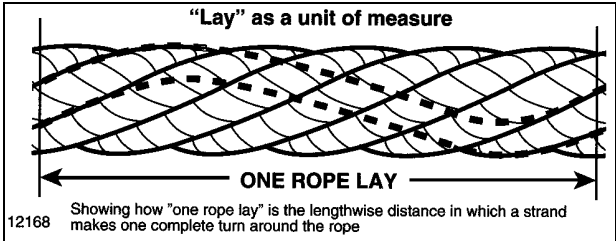

Figure 5-4. Description of One Rope Lay.
- (1) Twelve randomly distributed broken wires in one rope lay or four broken wires in one strand. (See Figure 5-4.)